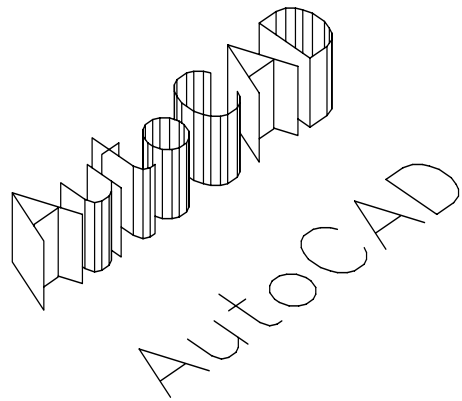

Figure 2-45 Text with and without thickness
4. To write text with thickness, first write a single line text and then change its thickness using any of the commands that modify its property, refer to Figure 2-45.